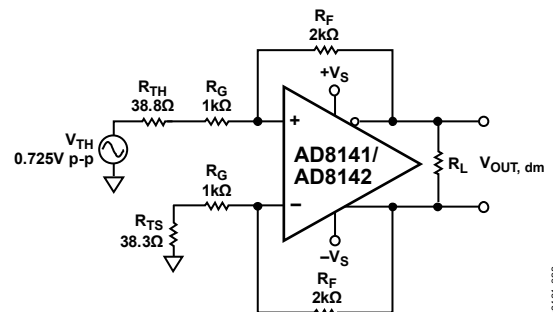

Figure 40. Thevenin Equivalent and Matched Gain Resistors
1. $R_{TH} = R_S || R_T = 38.8\text{ }\Omega$, and $R_{TS} = 38.3\text{ }\Omega$. Note that V_{TH} is greater than 0.7 V p-p, which was obtained with $R_T = 75\text{ }\Omega$ alone. The modified circuit with the Thevenin equivalent of the terminated source and R_{TS} in the lower feedback loop is shown in Figure 40.
Figure 40 presents a tractable circuit with matched feedback loops that can be easily evaluated.